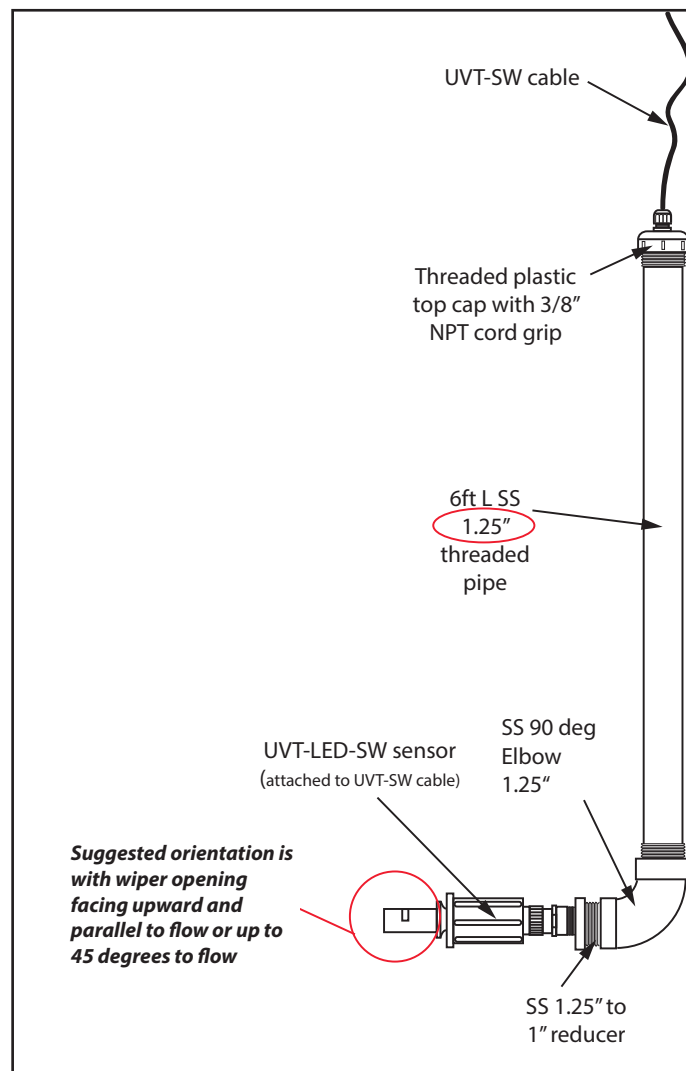

FIG. 32
2. **UVT-SW-004: Retrofit installation kit that attaches to existing installation brackets from other suppliers that require 1 1/4" pipe.** See FIG 32 for description of hardware.
2) UVT-SW-004: Retrofit installation kit that attaches to existing installation brackets from other suppliers that require 1 1/4" pipe. See FIG 32 for description of hardware.